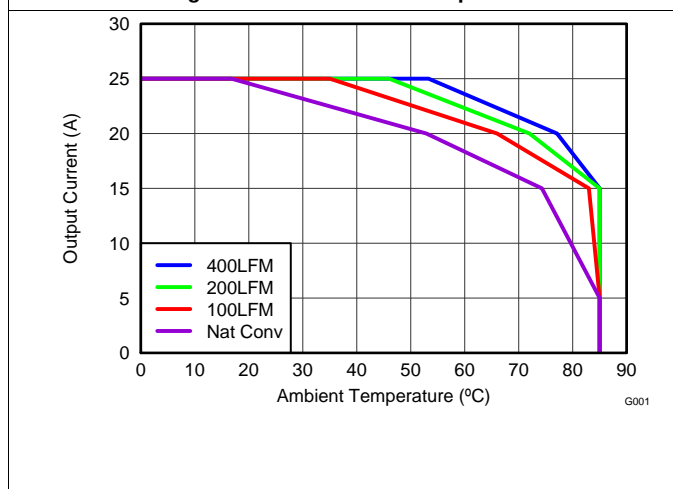
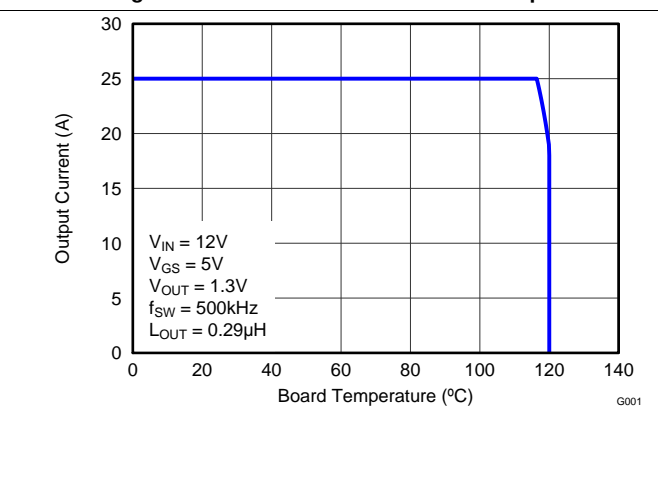

Figure 3. Safe Operating Area – PCB Horizontal Mount
Figure 4. Typical Safe Operating Area
$T_J = 125^{\circ}\text{C}$ , unless stated otherwise. The Typical Power Block System Characteristic curves Figure 3 and Figure 4 are based on measurements made on a PCB design with dimensions of 4.0 inches (W) × 3.5 inches (L) × 0.062 inch (H) and 6 copper layers of 1 oz. copper thickness. See Application and Implementation for detailed explanation.
$T_J = 125^\circ\text{C}$ , unless stated otherwise. The Typical Power Block System Characteristic curves Figure 3 and Figure 4 are based on measurements made on a PCB design with dimensions of 4.0 inches (W)  $\times$  3.5 inches (L)  $\times$  0.062 inch (H) and 6 copper layers of 1 oz. copper thickness. See Application and Implementation for detailed explanation.
The SOA curves in the CSD87588N data sheet provide guidance on the temperature boundaries within an operating system by incorporating the thermal resistance and system power loss. Figure 3 to Figure 4 outline the temperature and airflow conditions required for a given load current. The area under the curve dictates the safe operating area. All the curves are based on measurements made on a PCB design with dimensions of 4 inches (W) × 3.5 inches (L) × 0.062 inch (T) and 6 copper layers of 1 oz. copper thickness.